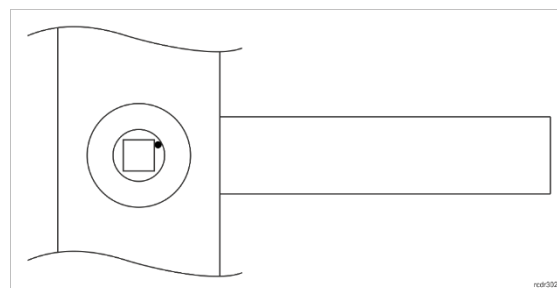

Fig. 1. Proper installation of handle mechanism
3. Make sure that the hole for the handle pin is positioned so that the marker (red dot) points to the upper door hinge (Fig. 1), then place the included handle pin in the mortise lock.